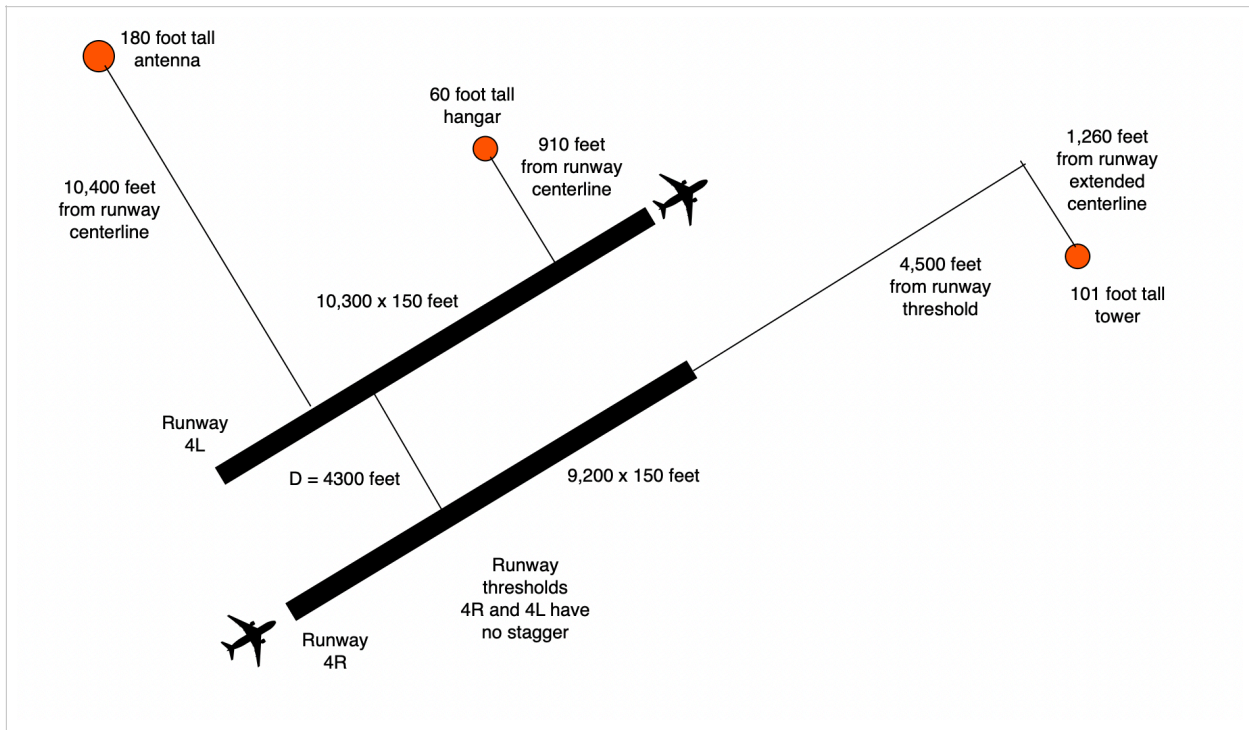

Figure 2. Runway Configuration for Problem 2. Both Runways are Precision Runways. Object Heights are Above Ground Level.
This problem analyzes the runway capacity for an airport with the runway configuration shown in Figure 2. The airport fleet mix is shown in Table 1. Runway 4L is used for departures, while runway 4R is exclusively for arrivals.
- c) Draw the Pareto diagram (i.e., arrival-departure diagram) for the runway configuration shown in Figure 2.
To solve this problem, refer to the airport configuration shown in Figure 2. The airport is located at 345 feet above mean sea level.